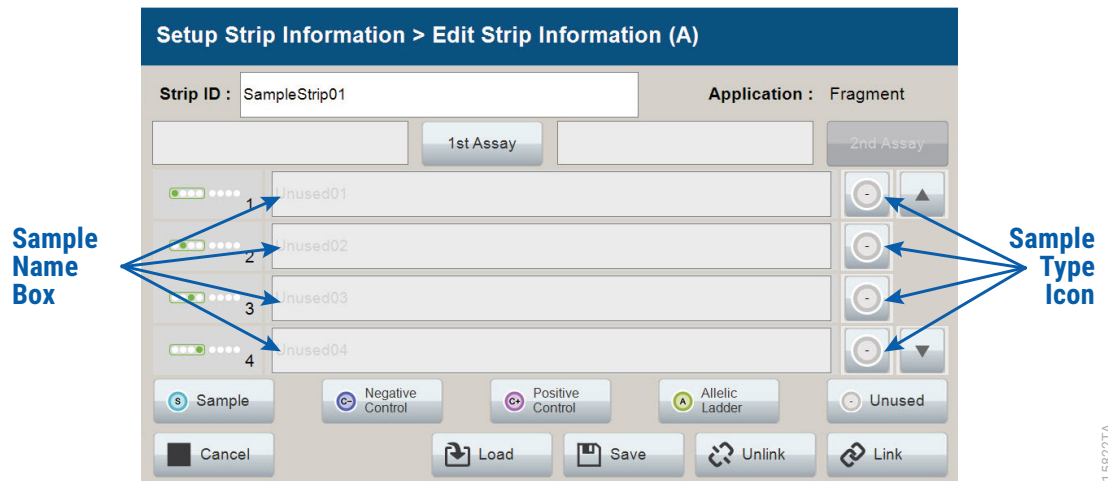
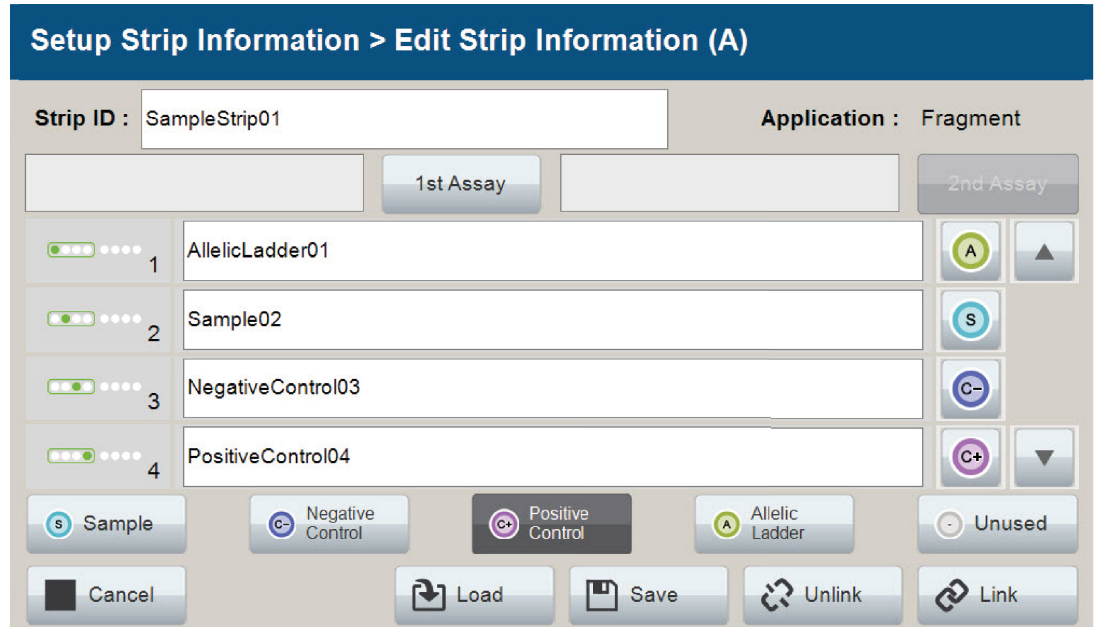
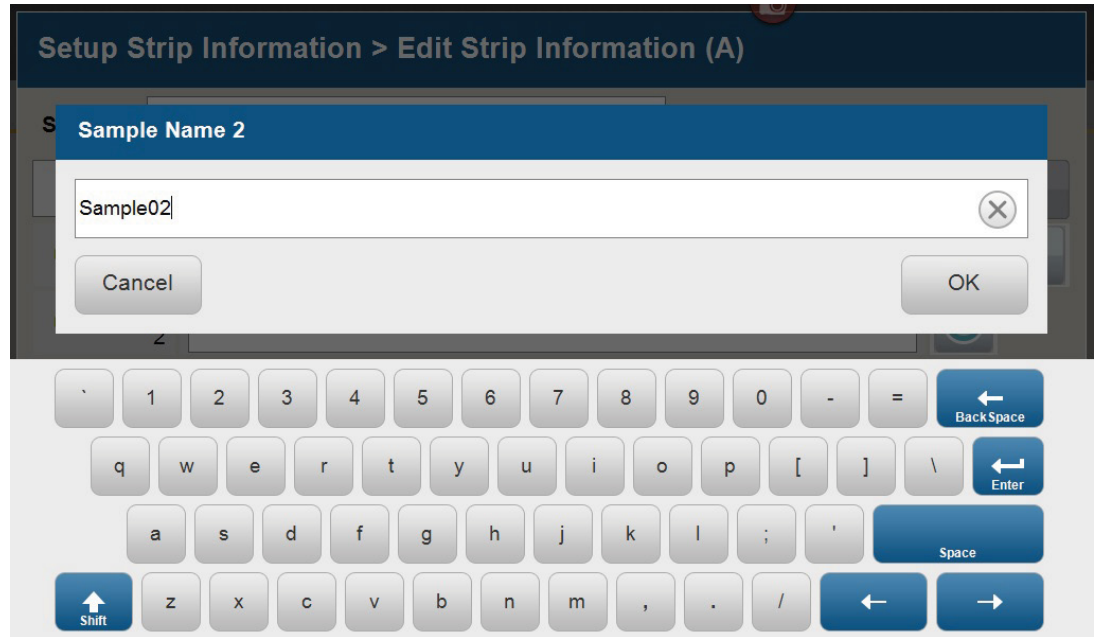
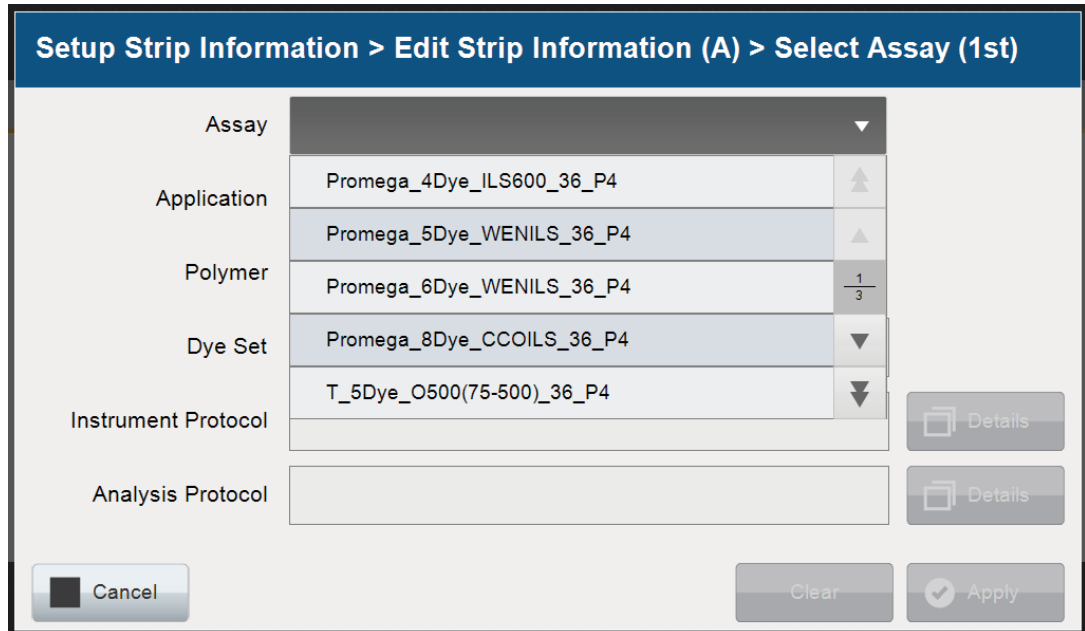

Figure 18. Sample Type and Sample Name on 'Edit Strip Information' screen.
Figure 19. Sample Name Entry on 'Edit Strip Information' screen.
Figure 20. Set Sample Name window.
Figure 21. 'Select Assay' window.
- Select a sample type on the 'Edit Strip Information' screen (Figure 18). Sample types must be selected for each well position before the Sample Name box becomes active for entry of sample name. Sample types are as follows.
- To assign a sample type to a well, select the appropriate sample type along the bottom of the 'Edit Strip Information' screen (Figure 18), then select the **Sample Type** icon to the right of the sample name field for the desired well. This icon will then display the sample type selected for that well (Figure 19).
6. Enter a sample name for each well position by selecting the Sample Name box adjacent to the well number on the 'Edit Strip Information' screen (Figure 19). This opens the Set Sample Name window and a keypad will become active on the touch screen (Figure 20). Alternatively, the Sample Name can be entered using a traditional keyboard if one is connected to the Spectrum Compact CE System. Enter the appropriate sample name, then select **OK** to exit and return to the 'Edit Strip Information' screen.
7. The Spectrum Compact Control Software includes preloaded run assays for use with chemistries available from Promega. Refer to the *Spectrum Compact CE System Operating Manual #TMD058* for information on creating or modifying assays. To assign a run assay to an injection set, select **1st Assay** on the right side of the 1st Assay field (Figure 19). This opens the 'Select Assay' window (Figure 21). Select **Promega_8Dye_CCOILS_36_P4** from the drop-down list (Figure 21) and then select **Apply**.